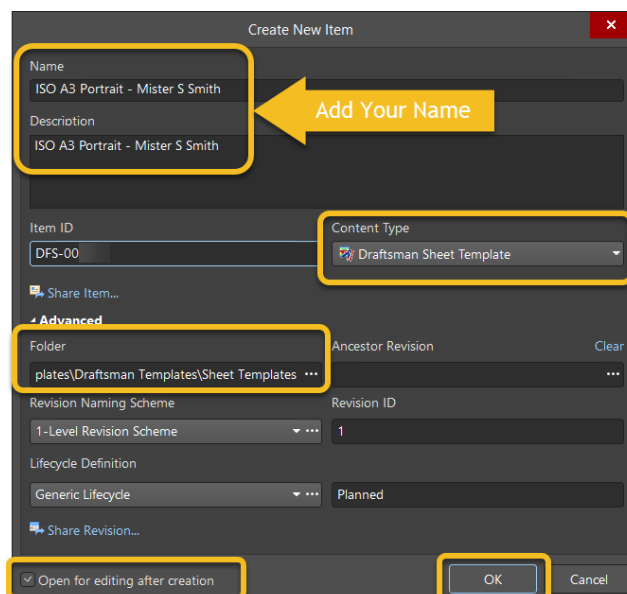

Figure 4. Create a new Draftsman Sheet Template
14. Let's create a new Sheet Template, using Figure 4 as reference.